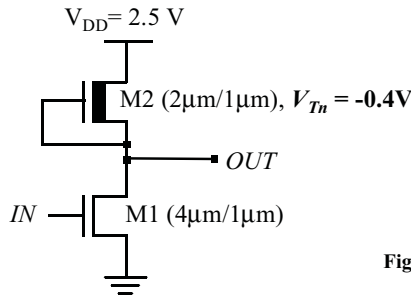

Figure 5.5 A depletion load NMOS inverter
7. Consider the circuit in Figure 5.5. Device M1 is a standard NMOS device. Device M2 has all the same properties as M1, except that its device threshold voltage is *negative* and has a value of -0.4V . Assume that all the current equations and inequality equations (to determine the mode of operation) for the depletion device M2 are the same as a regular NMOS. Assume that the input IN has a 0V to 2.5V swing.